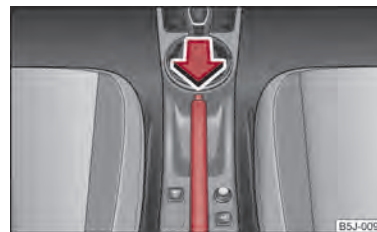

Fig. 84 Centre console: Handbrake
- Pull the handbrake lever up slightly and **at the same time** press in the locking button ⇒ fig. 84.